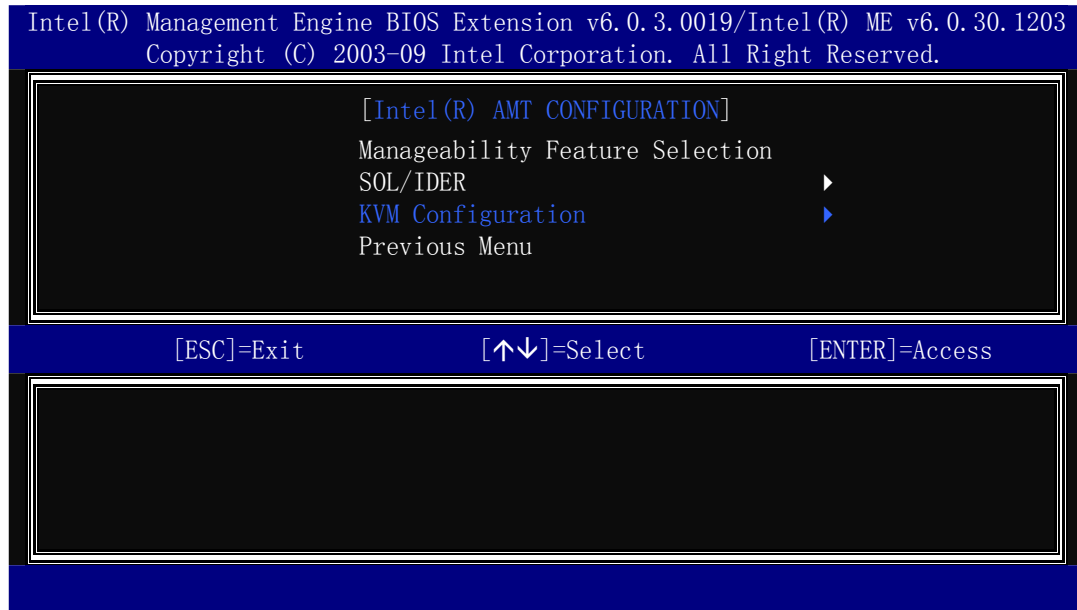

Figure A-5: Select KVM Configuration
Step 6: Select **KVM Configuration** and press **Enter**. (**Figure A-5**)